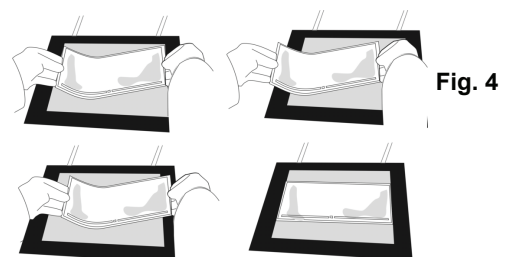

Fig. 4
7. Grip the gel (surface-up) at the two lateral edges at the protruding film, bend into a “U-shape” and slide the film-backing left and right on the cooling plate to distribute the cool contact fluid evenly (Fig. 4).